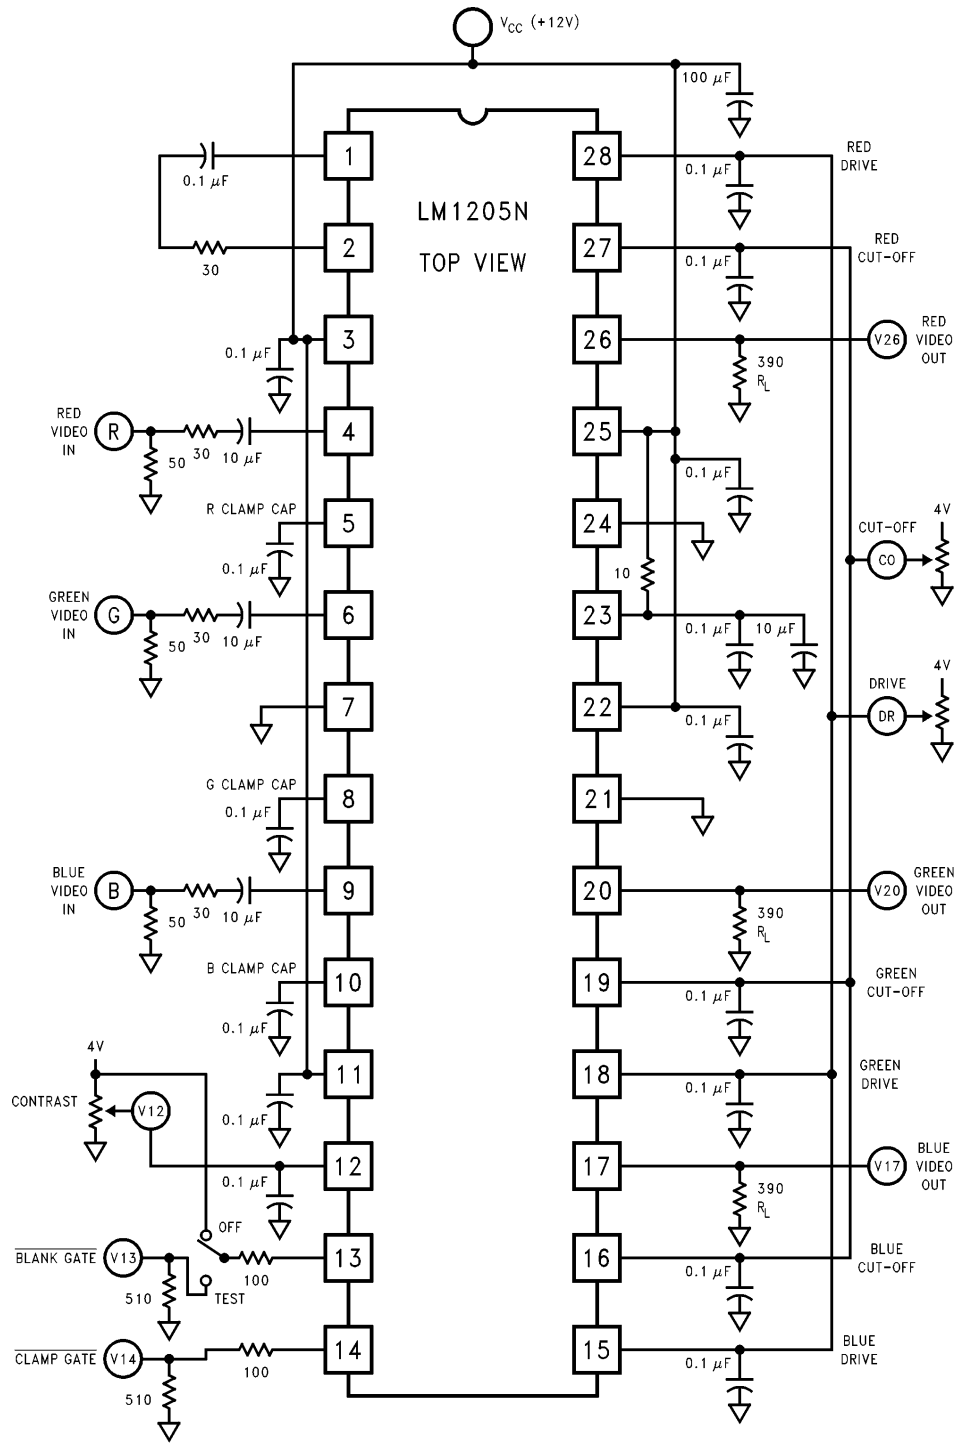

FIGURE 2. LM1205N DC Test Circuit
**DC Electrical Characteristics** See DC Test Circuit (Figure 2),  $T_A = 25^\circ\text{C}$ ;  $V_{CC1} = V_{CC2} = 12\text{V}$ .  $V_{I2} = 4\text{V}$ ;  $V_{I4} = 0\text{V}$ ;  $V_{\text{cut-off}} = 1.0\text{V}$ ;  $V_{I3} = 4\text{V}$ ;  $V_{\text{drive}} = 4\text{V}$  unless otherwise stated.
**Note 7:** The supply current specified is the quiescent current for  $V_{CC1}$  and  $V_{CC2}$  with  $R_L = \infty$ , see Figure 2's test circuit. The supply current for  $V_{CC2}$  (pin 23) also depends on the output load. With video output at 1V DC, the additional current through  $V_{CC2}$  is 8 mA for Figure 2's test circuit.